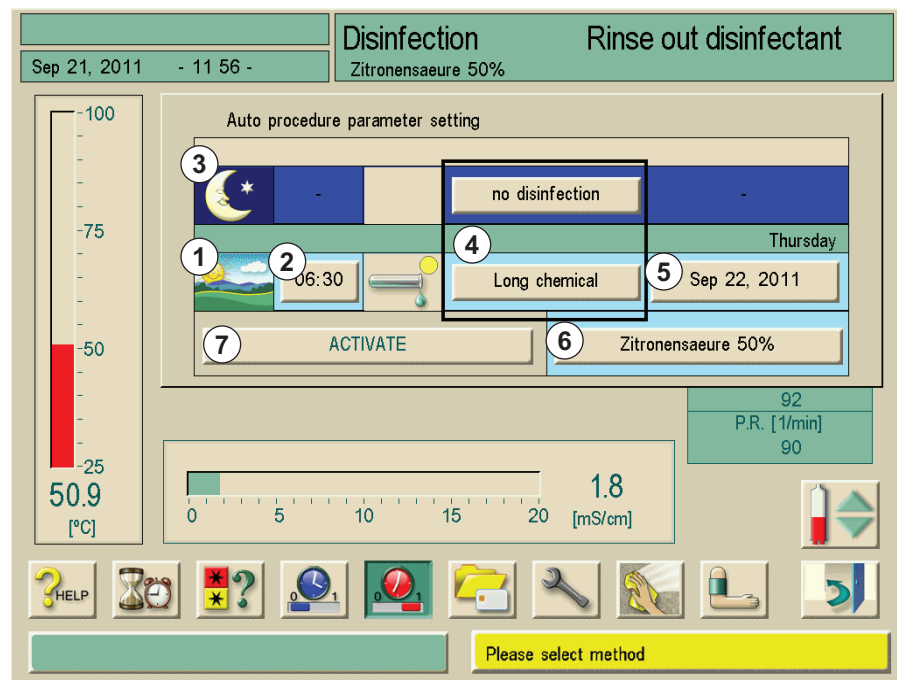

Fig. 8-7 "Disinfection" screen
1. Touch button for disinfection method (4, Fig. 8-7) .
3. Set switch **ON** time (2, Fig. 8-7).
4. Touch button “Activate” (7, Fig. 8-7).